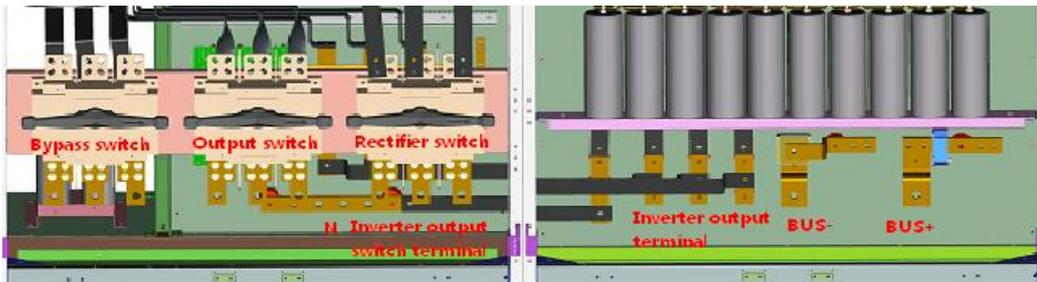

Fig. 3-20: View of inverter connection of This series (400-500kVA) UPS
4. Connect the conversion copper bars of the rectifier cabinet and the inverter cabinet. Connect the “inverter conversion terminal” of the rectifier cabinet to the “inverter output terminal” of the inverter cabinet using the soft copper bar provided with the machine. When connecting, the phase sequences should be connected correspondingly (for example: “A phase at the inverter conversion terminal” is correspondingly connected to “A phase at the inverter output terminal”). The null line (N) copper bar between the rectifier cabinet and the inverter cabinet should also be connected. As shown in Fig. 3-20.